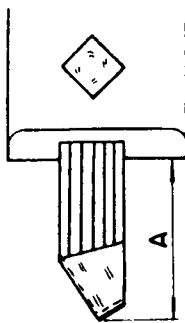

Fig. 5
- Fix the roughing tool (Fig. 5).